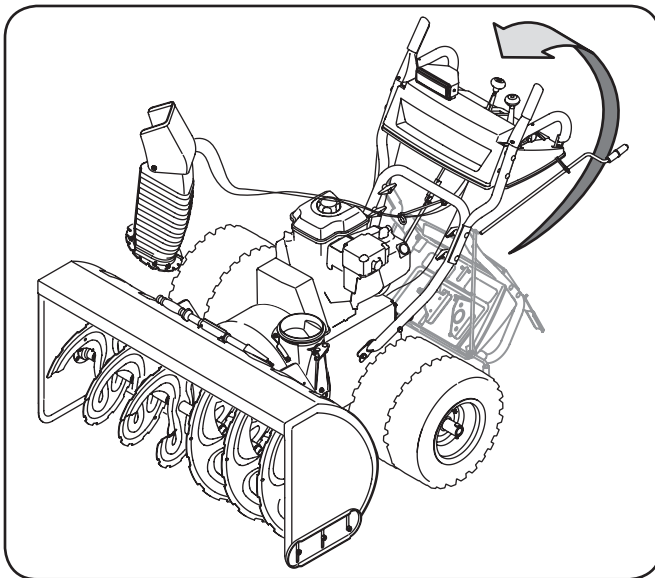

Figure 3-1
2. Remove the lower plastic wing nut, Belleville washer and carriage bolt from each side of the upper handle; then raise the upper handle assembly until it snaps over the lower handle. See Figure 3-1.